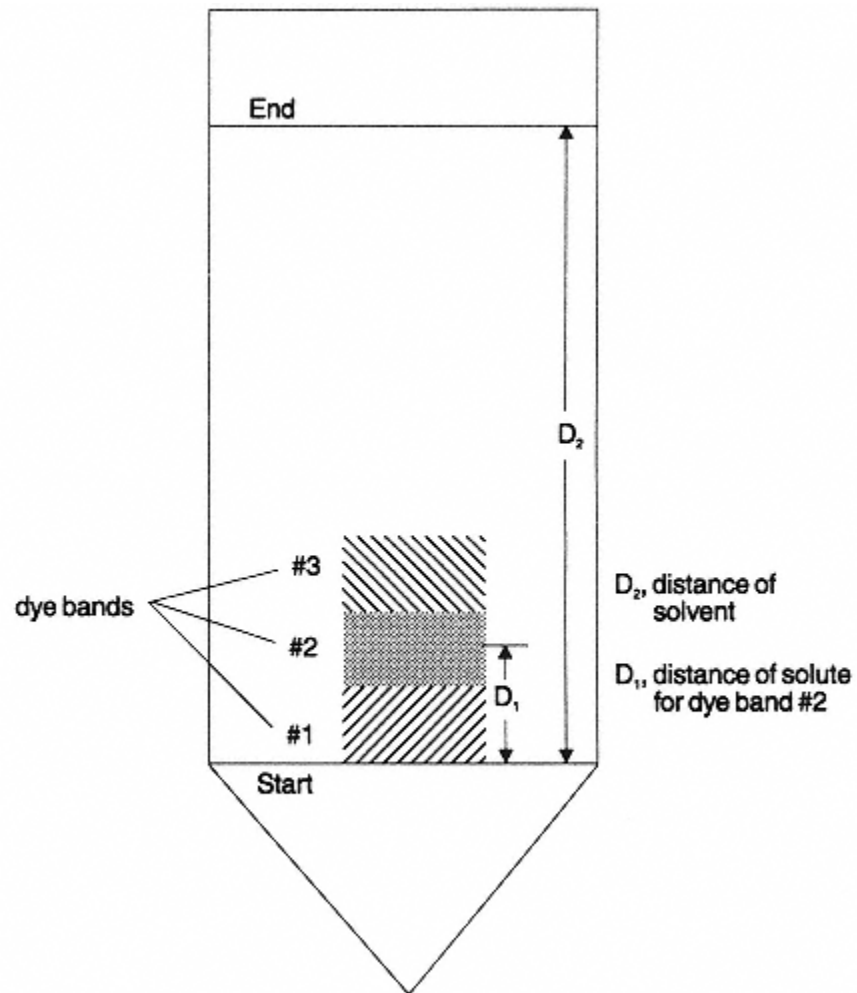

Figure A.1
Every food dye has a unique molecular structure that causes a difference in solubility and adhesion or affinity for the chromatographic paper. As a result, each dye is carried to different heights by the rising solvent. The distance each dye travels is measured from the start line on the paper to the center of the color band formed (see Figure A.1). The average distance traveled by the color solute and the solvent is known as the flow rate (R) and is calculated by using the following formula: